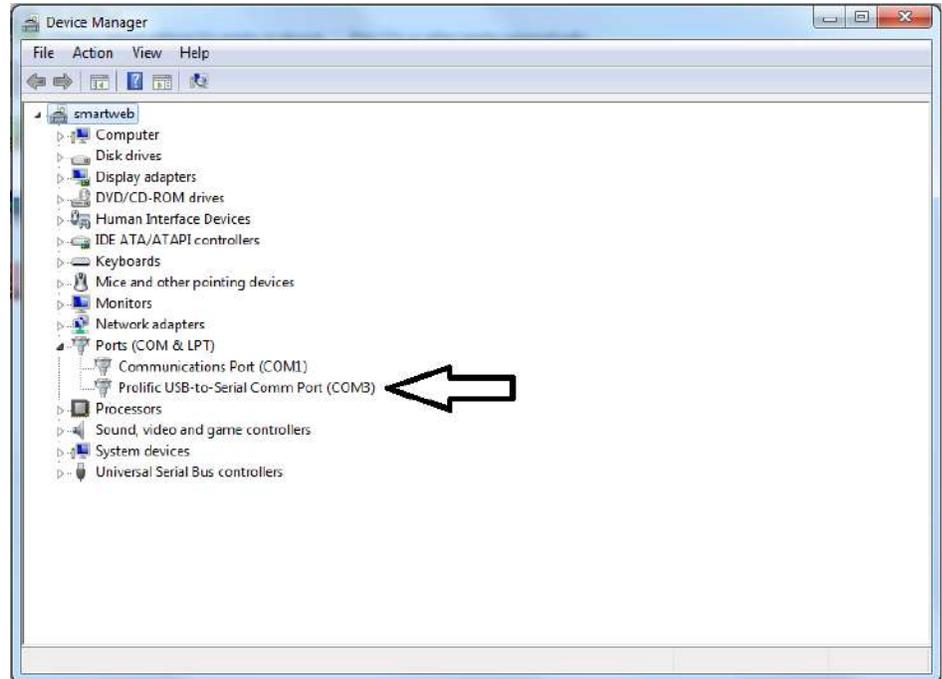

Figure 7-1
3. Use Windows Control Panel / Device Manager to identify the Com port number. **See Figure 7-1 below.**